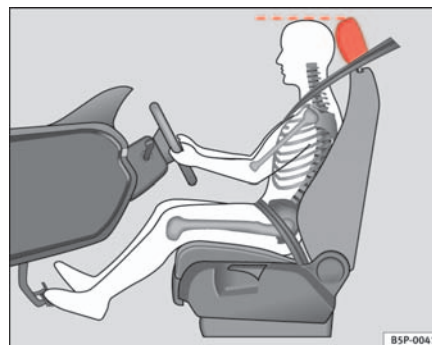

Fig. 2 Proper head restraint position for driver
- Adjust the head restraint so that its upper edge is at the same level as the top of your head, or as close as possible to the same level as the top of your head ⇒ **fig. 2**.